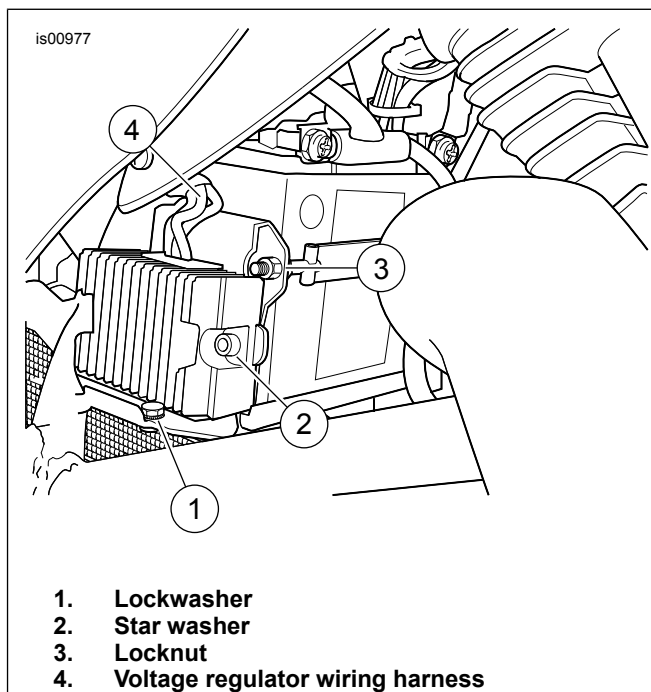

Figure 2. New Battery Tray (Right Side)
1. See Figure 2. Position new battery tray over existing battery tray. Vertical side of tray goes on right side of motorcycle.
3. See Figure 2. Apply LOCTITE® THREADLOCKER 262 (Red) (Harley-Davidson part number 94759-99) to mounting screw. Route voltage regulator wire harness over top edge of new tray (not to side). Install new tray to existing tray with mounting screw and new star washer provided in kit. Tighten screw to 10-12 ft-lbs (14-16 Nm).
4. See Figure 2. Position two new star washers (2) between voltage regulator and new tray under both mounting holes. Insert **new** screws and washers far enough to capture star washers and install voltage regulator to vertical surface of new tray. Tighten screws to 9-11 ft-lbs (12-15 Nm).
8. See Figure 2. Install battery strap by hooking left side to battery tray and securing right side with new locknut (3) provided in kit. Tighten locknut to 40-50 in-lbs (5-6 Nm).